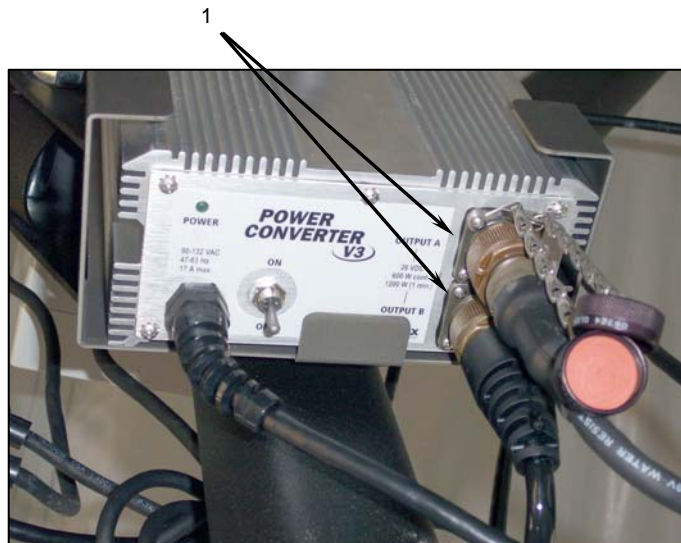

Figure 34. Disconnect Power Cables from Power Converter.
- c. If not already done, disconnect the grease separator power cord (Figure 34, Item 1) and the 25-ft DC power cable (Figure 34, Item 1) from the power converter and cap the power converter connectors.